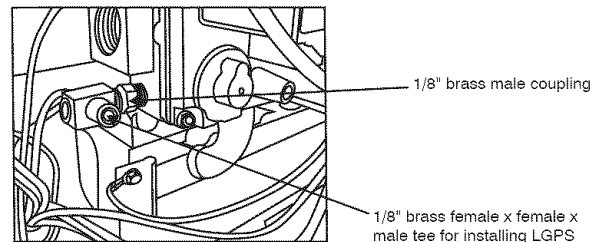

Fig. 10 - Gas Valve Inlet Pressure tap
3. Apply pipe dope sparingly to the ends of 1/8 in. brass male coupling (provided in kit) and install it in 1/8 in. tapped opening in gas valve inlet pressure-tap. Tighten fitting with a small wrench. (See Fig. 10.)
4. Attach the female end of the female x female x male brass tee (provided in kit). Tighten fitting with a small wrench so the male portion of the tee points out from the furnace. (See Fig. 10.)